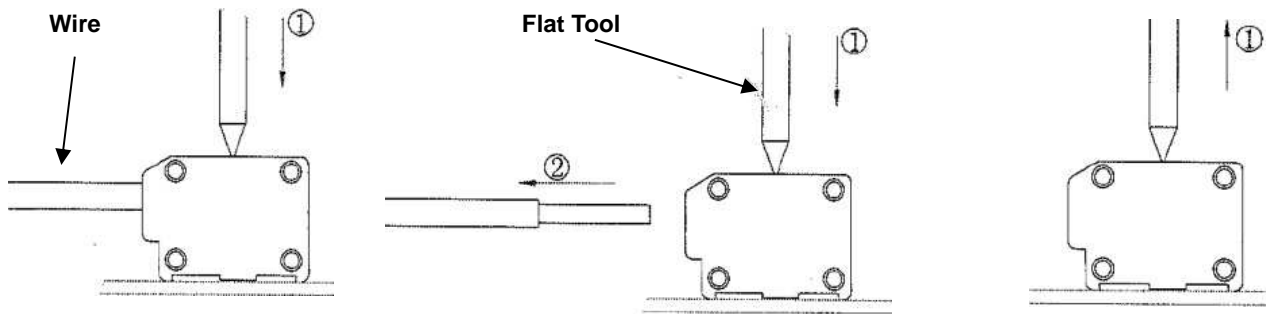

Figure 4: 2834088 to 2834090 & 2834097
3. Wire Releasing: see Figure 4, 6, 8